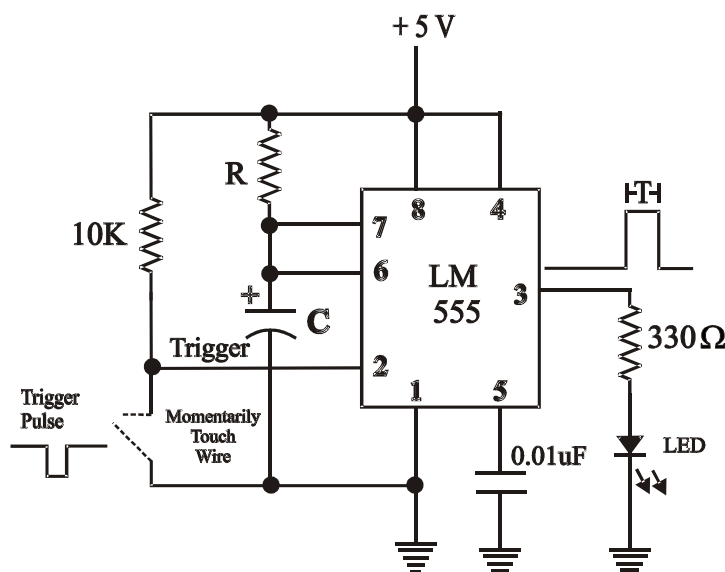

Fig. 10.1: Pulse generation using 555 Timer (Monostable Multivibrator).
The single pulse, during which input signal frequency will be counted, is being generated by using a IC555 timer chip as shown in figure 10.1. The 555 timer is operating in Monostable (or One-shot) mode i.e., it generates a single pulse at pin '3'
1. Connect the circuit as shown in Fig. 10.1 in a bread-board.